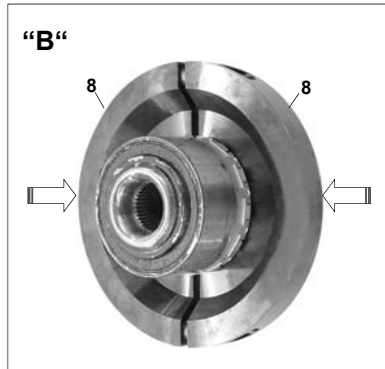

Fig. 2: Mounting the pressure screws.
2. Evenly screw pressure screws “9” into wheel hub until the screws with their pressure head properly engage in the groove of clamping shells “8” (**Fig. 2**). Slightly tighten pressure screws “9” uniformly in a crosswise sequence.